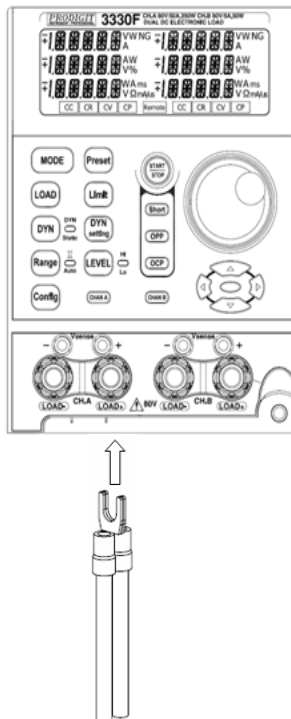

Fig 3-3 Hook Terminal Y type large size terminal connections
- 3.3.2 Spade terminals: The spade terminal provides a good contact to the binding post, It is recommended to use anytime. The maximum wire gage 10 can be used in this Application as show Fig3-3 and Table 3-6.